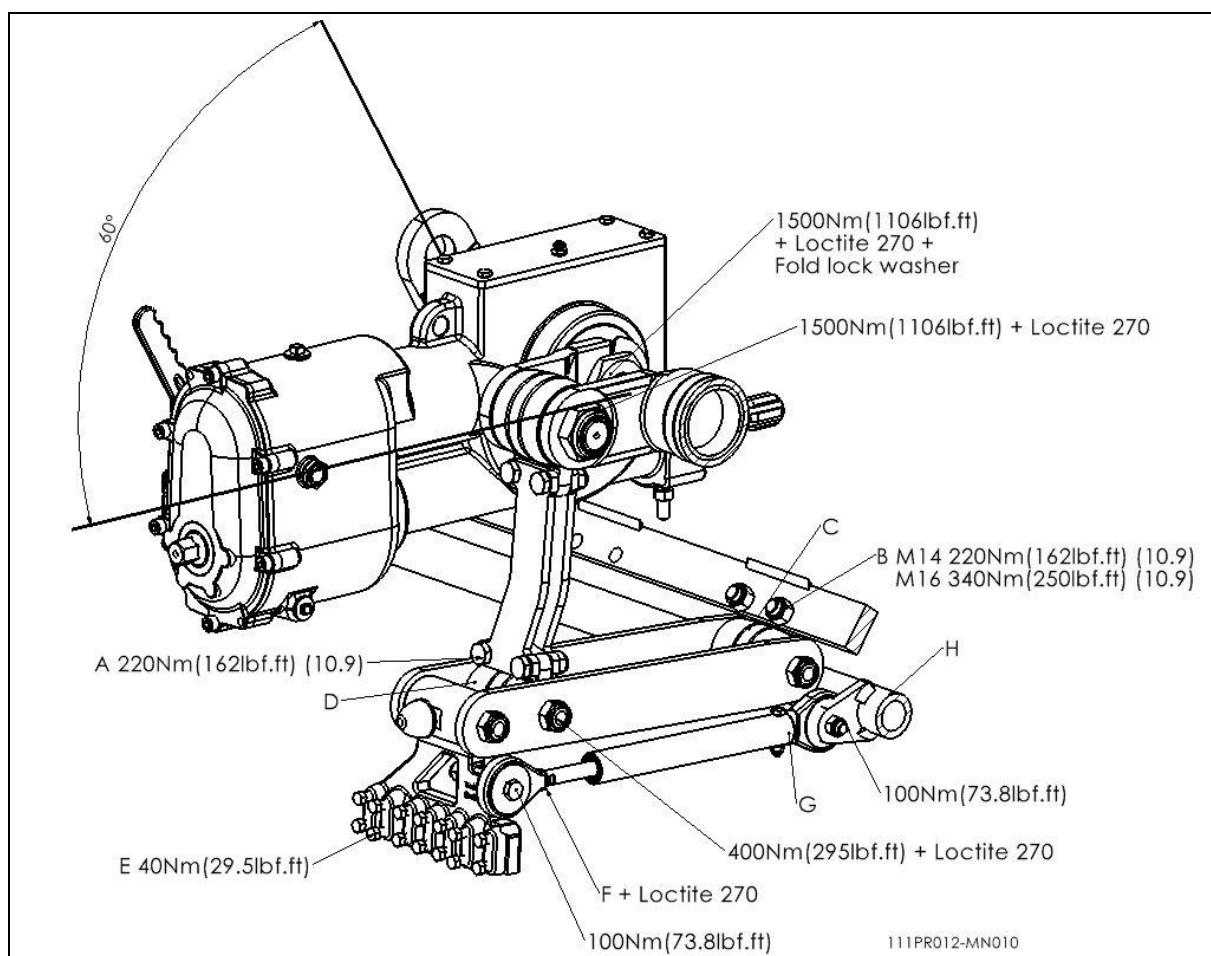

Fig. 8
In fig. 8 the torque settings of the most important bolts/nuts are given. For the ones the torque setting is not mentioned, please be sure that they are tightened as a similar size bolt/nut would be tightened. If bolts/nuts are working themselves loose, loctite may be applied.
6. After replacing the crank and/or bearing, replace the parts in the same sequence as they were removed. Use loctite were indicated in fig.8.
In the event that an element is no longer in line with the adjacent elements, the alignment can be corrected as follows (see fig. 8.):